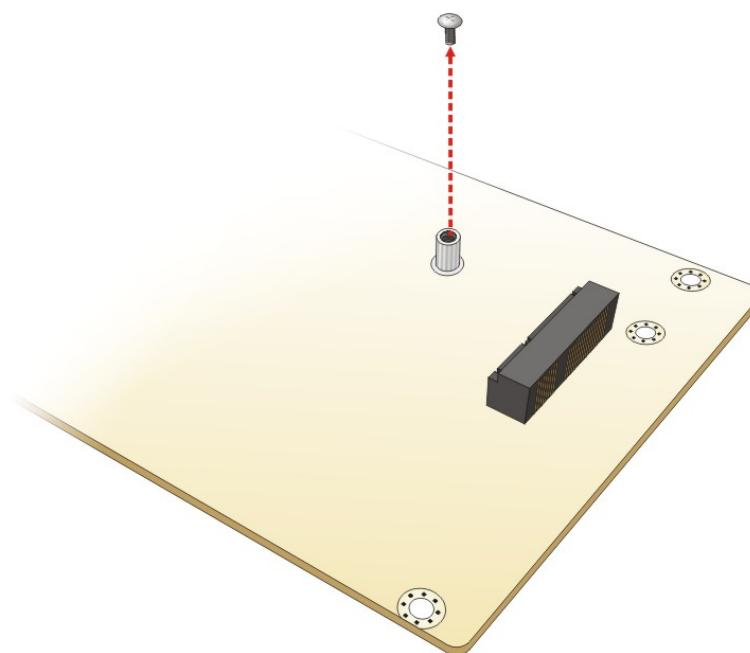

Figure 4-2: Removing the Retention Screw for the iRIS-1010 Module
**Step 2:** **Remove the retention screw.** Remove the retention screw as shown in **Figure 4-2**.